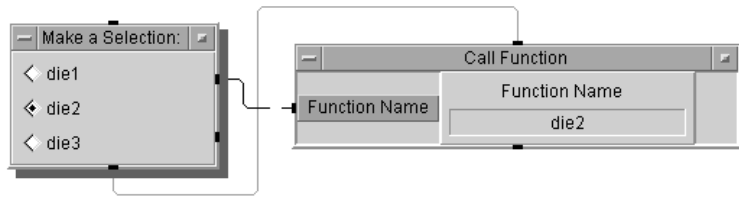

Figure 239 The Dice Program (Detail View)
- 11 Click **Device** ⇒ **Call**. Select **Add Terminal** ⇒ **Control Input**, then select Function Name, and click **OK**. The Function Name control pin accepts an Enum or Text value as input. Connect the Radio Buttons data output pin to the Function Name input terminal on the Call Function object. Connect the Radio Buttons sequence out pin to the sequence in pin of Call Function. Click on **die2** in **Make a Selection**: and notice that the **Call Function Name** changes to **die2**, as shown in Figure 239.